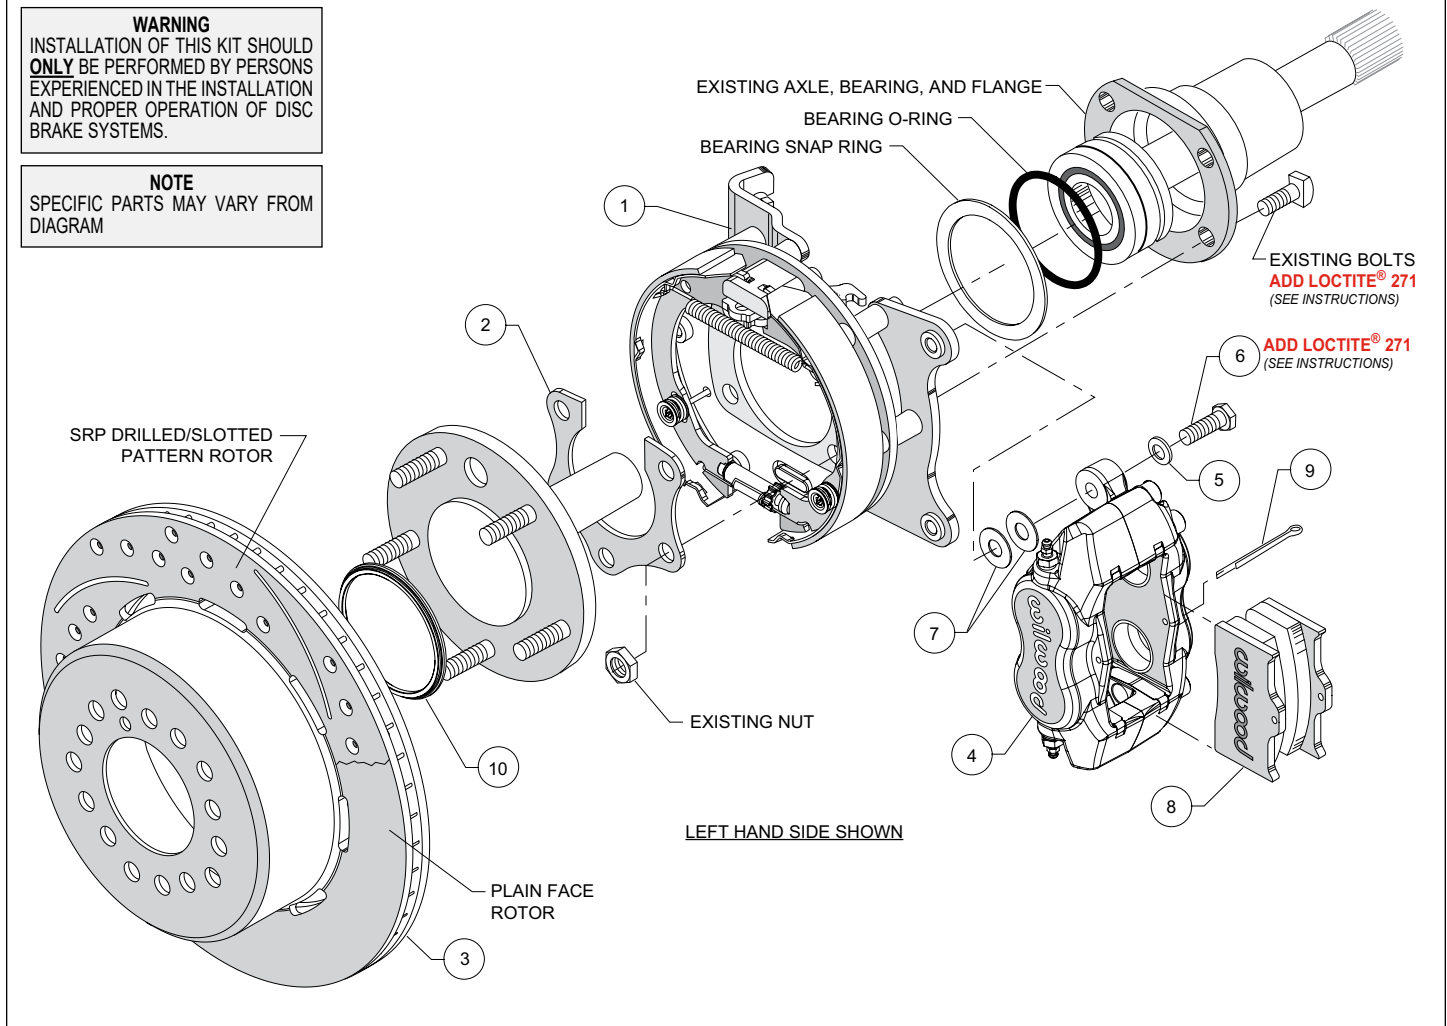

Figure 3. Typical Installation Configuration
NOTE: Numbers in parenthesis refer to the parts list and Figure 3 on the preceding pages.
- Temporarily remove the snap ring and o-ring from the bearing. Use care so as not to damage those components. Orient the bracket assembly (1) as shown in Figure 3 and Photo 1 and slide it onto the axle and past the bearing. Reinstall the snap ring and o-ring onto the bearing, again using care. Insert the axle and bracket into the axle housing. Ensure that the bracket assembly backing plate fits flush against the axle housing flange.
- Install the bearing retainer (2) with the opening pointing upward and the relief step facing inward (toward the bearing), as shown in Figures 3 and 6, and Photo 2. Secure retainer and bracket assembly to the axle housing flange using the Original Equipment Manufacturer (OEM) bolts and nuts, Figure 3. Apply red *Loctite*® 271 to the OEM bolt threads and torque to OEM specifications.
- Slide the rotor registration adapter (10) onto the axle register on the axle flange with the smaller O.D. facing toward the rotor/hat (3), Photo 3. Align the correct hole pattern in the rotor/hat with the stud pattern on the axle flange and slide into place, Figure 3 and Photo 4. **NOTE:** The rotor/hat must fit flush against the axle flange or excessive rotor run out may result. Install three lug nuts (finger tight) to keep the rotor/hat assembly in place while continuing with the installation. **NOTE:** Some OEM and after market axles come with stud sizes larger than 0.50" diameter. Verify stud size and have a qualified machine shop drill the bolt circle of the hat/rotor to the correct stud size, if necessary.
• **NOTE:** Please reference the caution statement at the beginning of the assembly instructions. Mount the caliper (4) onto the caliper mounting bracket (1) using bolts (6) and washers (5), as shown in Figure 3. Initially place two .035" thick shims (7) on each bolt between the caliper and the bracket, Photo 5. Temporarily tighten the mounting bolts and view the rotor (3) through the top opening